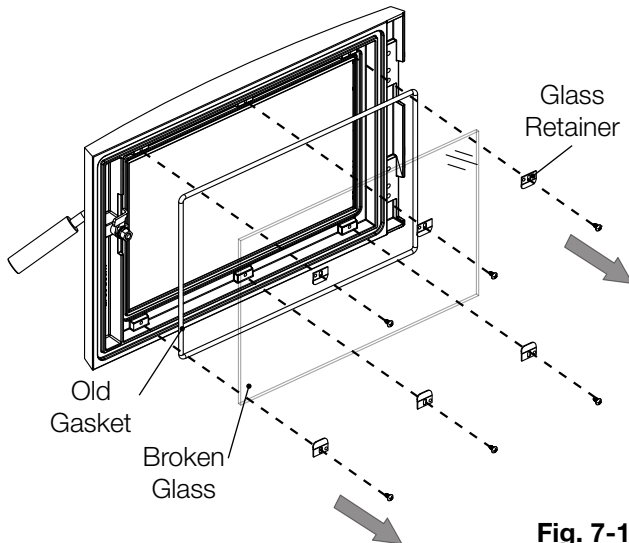

Fig. 7-1
2. Remove the 6 screws securing the glass retainers (**Fig. 7-1**). Set the screws and glass retainers aside.